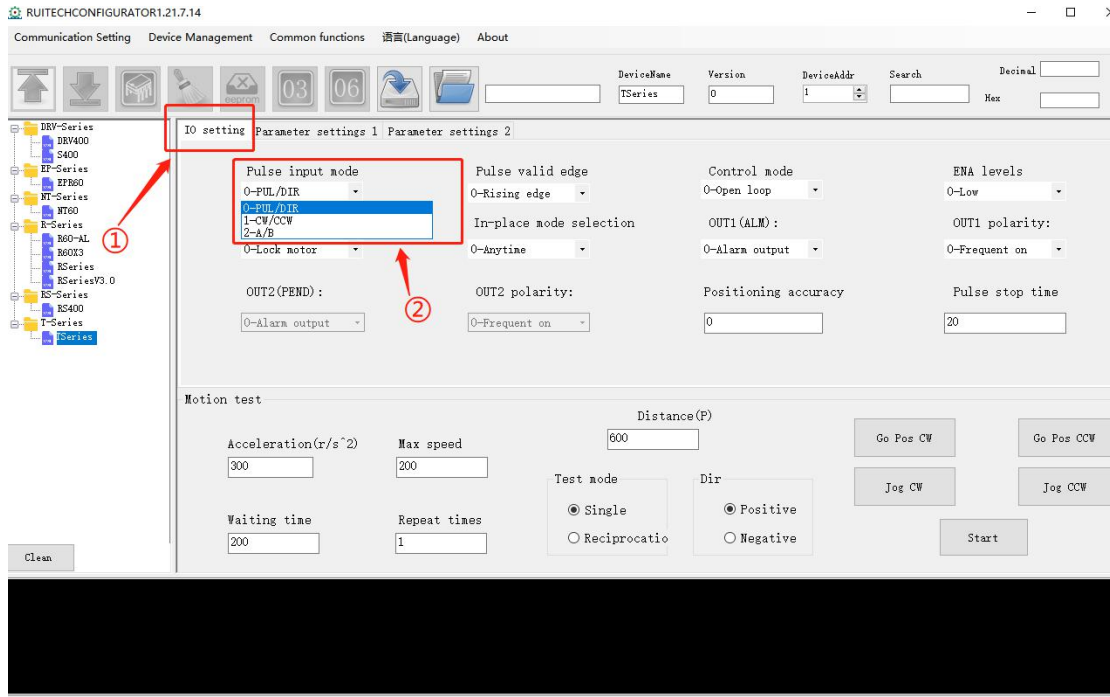

Figure 6
(5) IO setting
As shown in Fig.6, step ①: click "IO Setting"; Step ②: Users can choose "Pulse input mode" according to their own needs.